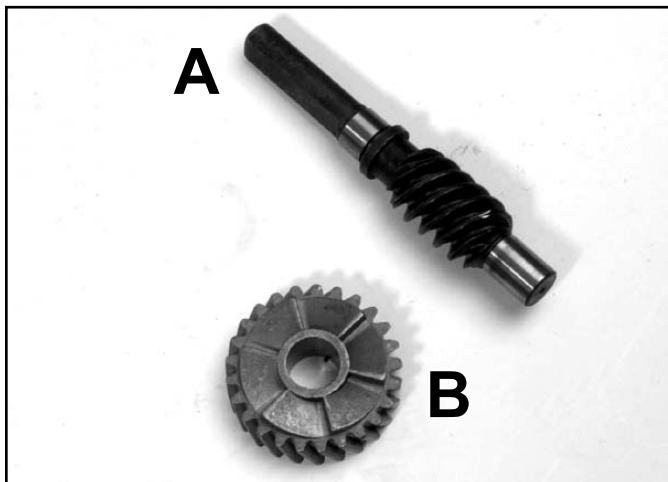

Fig 014
13. Worm and helical gears are sold as a set. Even after a short run time, they will develop a wear pattern. Replacing only one gear will result in rapid failure (Fig. 014).